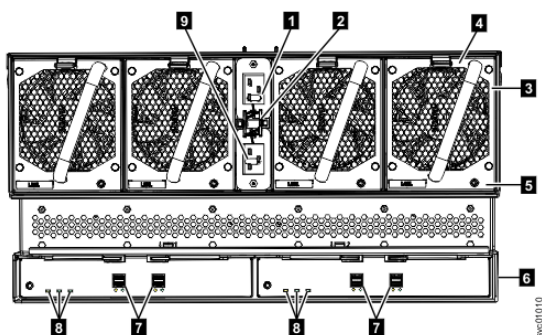
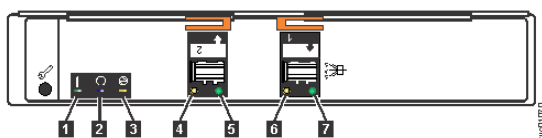

Figure 171. LEDs on the back of the expansion enclosure
Figure 172. LEDs on the back of the expansion canister
Table 67 on page 216 explains the function and status that is indicated by each of the LEDs. The power cords for each PSU are accessible from the rear of the expansion enclosure (1), as shown in Figure 171 on page 217.
Figure 171 on page 217 shows the rear view of a expansion enclosure. LEDs on the rear of the enclosure provide information about each fan module, each expansion canister, and SAS links.
The expansion enclosure has four fans. Each fan has one LED; for example, Figure 171 on page 217 shows the location of the LED (5) for fan number four. When a fan is operating normally, the LED is not lit. If a fault is detected, the amber LED is lit.
As Figure 171 on page 217 also shows, the expansion enclosure contains two expansion canisters. Each expansion canister contains its own set of LEDs, as shown in Figure 172 on page 217. The LEDs provide status information about the expansion canister itself and the SAS connections.